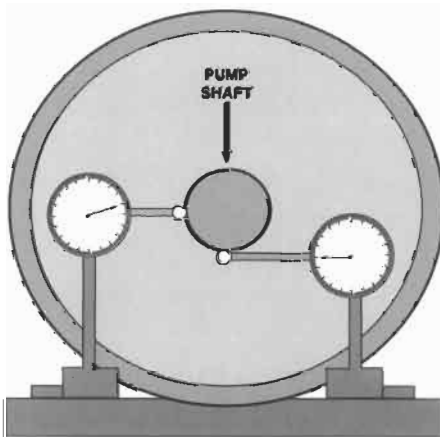

Figure 10-12
- To verify pipe strain, place dial indicators on the shaft and watch for horizontal and vertical movement. Unite the flanges one at a time continually observing the indicator readings. In general the indicator readings should not exceed 0.002 inches (Figure 10-12).